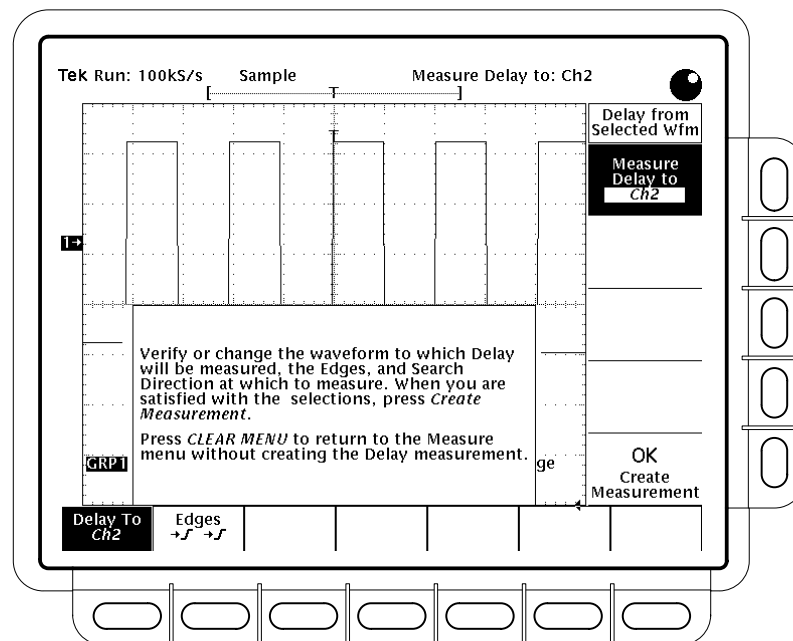

Figure 3-35: Measure Delay Menu — Delay To
1. Press **MEASURE** → **Select Measrmt** (main) → **Delay** (side). This sequence brings up the Measure Delay main menu. (See Figure 3-35.)